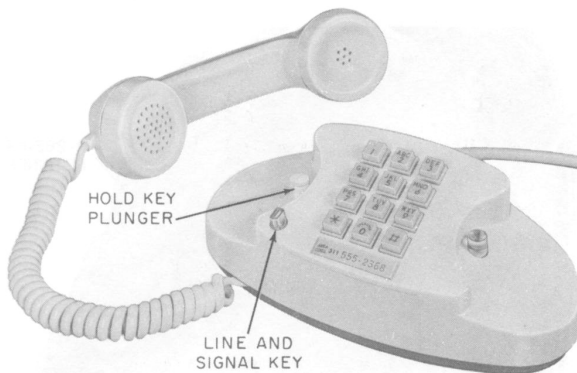

Fig. 1—2712B Telephone Set
2.05 The 2712B telephone set (Fig. 1) is equipped with a 638B key for line selection and signaling.